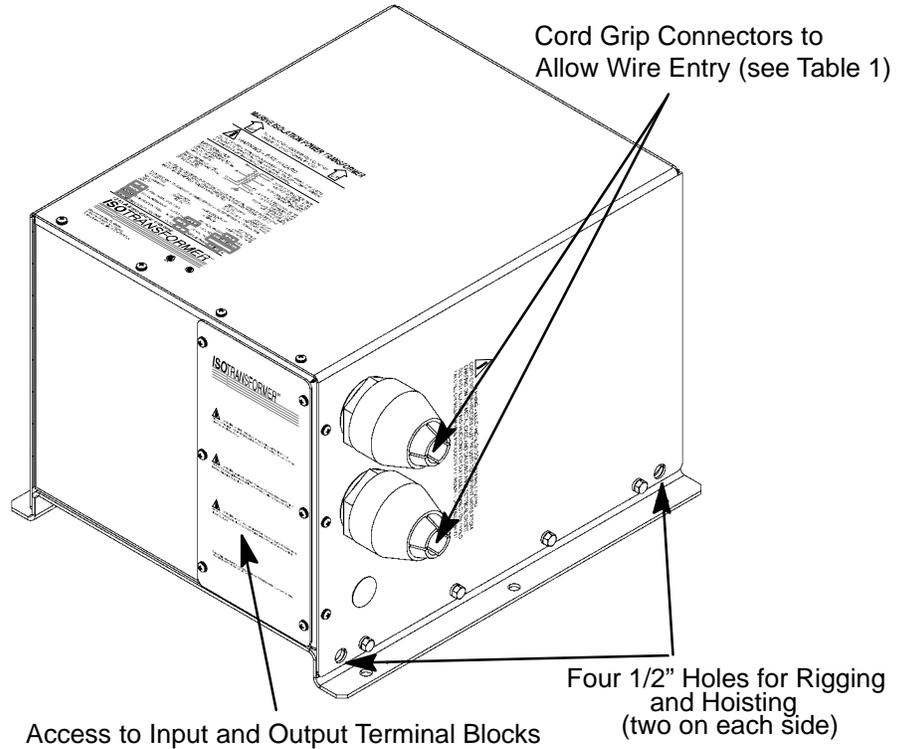

**Figure 3. Electrical Diagram – Method 3 (see Figure 7 for Wiring Connections)**
*Note: Figure 1, Figure 2 and Figure 3 are reprinted with permission from the American Boat and Yacht Council (ABYC). To obtain the complete standard referenced or any other standards contact:*